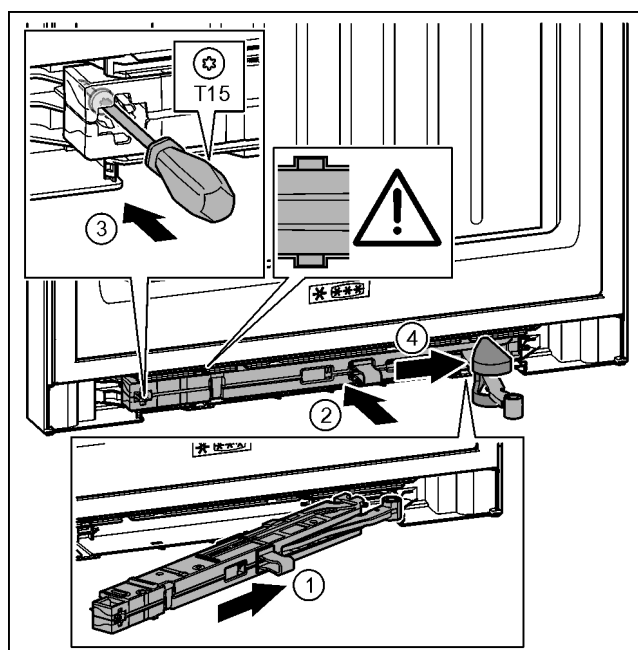

Fig. 45
- ▶ Slide the soft stop mechanism on the bearing bracket side at an angle into the slot as far as the limit stop. Fig. 45 (1)
- ▶ Slide the soft stop mechanism fully into the slot. Fig. 45 (2)
- ▶ Tighten the screw with the T15 screwdriver. Fig. 45 (3)
- ▶ Push the cover over the hinge. Fig. 45 (4)